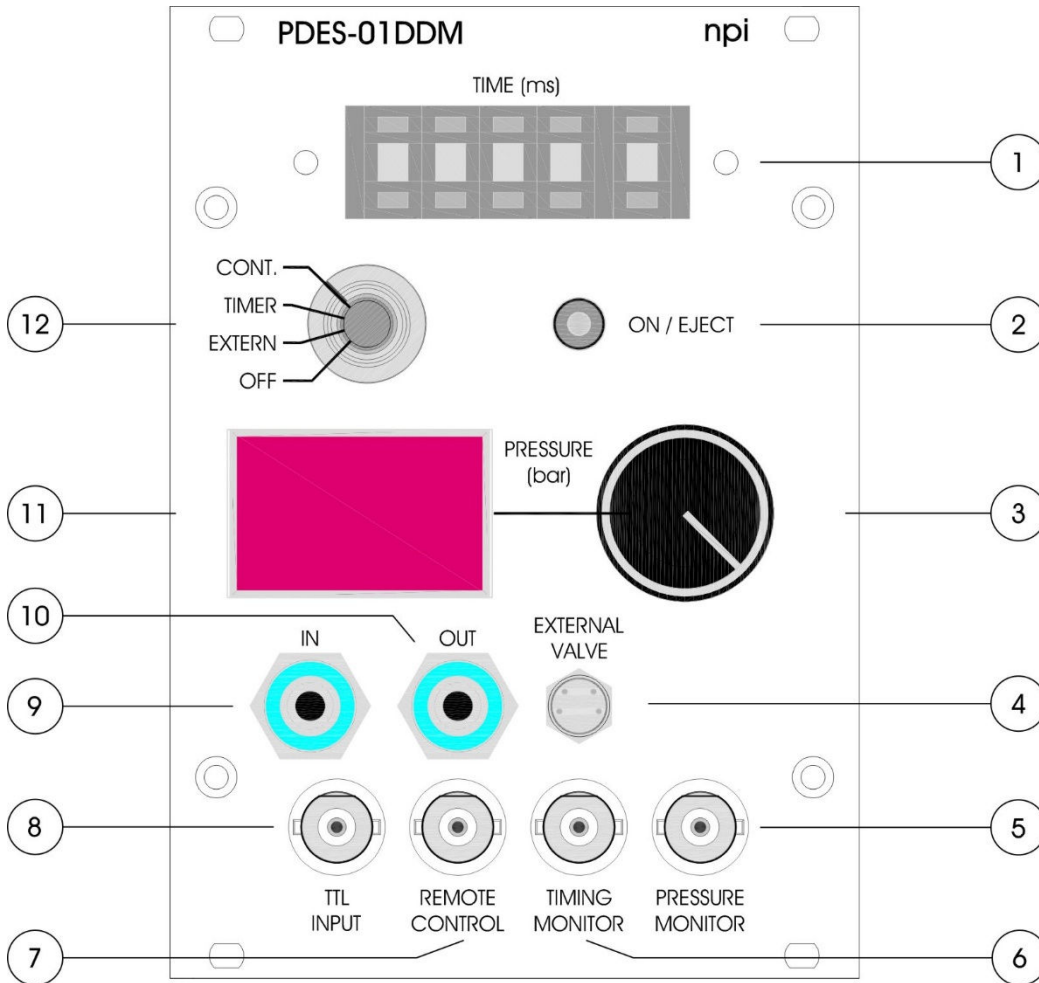
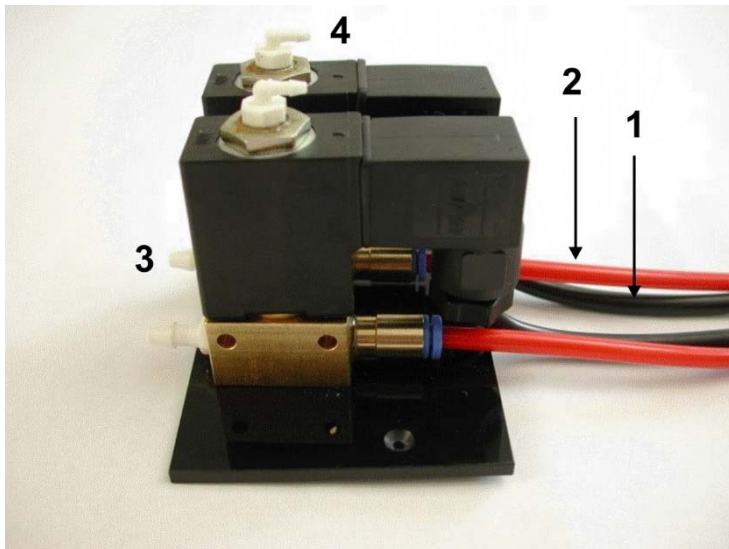

Figure 5: PDES-01DDM front panel view (the numbers are related to those in the text below)
Figure 6: external valves on remote valve plate
The valve which is controlled by the PDES is located on the remote valve plate (see Figure 6). Tubing and cable of the external valves are connected at the front panel of the PDES system (refer to chapter 3.3). Exhaust is usually not connected.
- ❑ connect the *microJECT* pipette holder to the OUT connector at the front panel (#10, Figure 5) and optionally to the HOLDING pressure, and connect your ejection pipette to the *microJECT* (#1, Figure 6).
- ❑ Turn on pressure and adjust the pressure to the desired value using the pressure regulator (#5, Figure 5).
- ❑ Connect a timing unit to the TTL INPUT connector (#8, Figure 5) at the front panel
connect a pushbutton to the REMOTE CONTROL connector (#7, Figure 5) at the front panel
- ❑ Select the operation mode using the rotary switch (#12, Figure 5) at the front panel.
- In the TIMER position the duration is preset by TIME (ms) potentiometer (#1, Figure 5) of the PDES. Application is started with a TTL signal connected to TTL INPUT (#8, Figure 5) or by pressing the pushbutton connected to #7, Figure 5. In position OFF of the timer control for pressure ejection is disabled.
- In the OFF position the PDES module is turned OFF, the valve is closed. LED (#2, Figure 5) is also off. The source pressure value is still shown at the manometer #11, Figure 5, but opening of the valve is disabled in OFF position.
Hint: Ejection time can be monitored by recording the signal at #8, Figure 5!